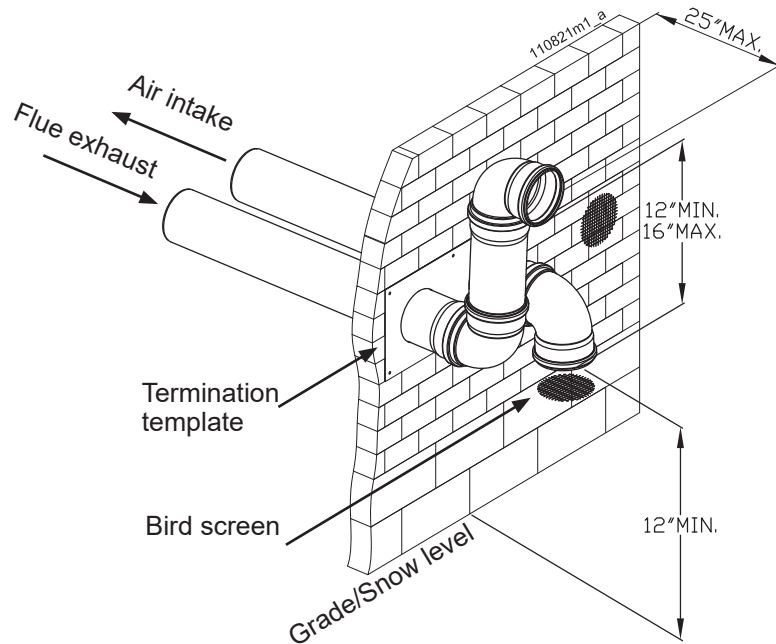

Figure 11-15 Two pipes sidewall termination of air and vent
- 3.- The vent piping must terminate in an elbow pointed outward as shown in Figures 11-15 or 11-16 or in a roof as shown in Figure 11-22;
Do not exceed the maximum lengths of the outside vent piping shown in Figures 11-15, 11-16 or 11-22. Excessive length exposed to the outside could cause freezing of condensate in the vent pipe, resulting in potential appliance shutdown.
- 3.- The air piping must terminate in a down-turned elbow as shown in Figures 11-15 and 11-16. This arrangement avoids recirculation of flue products into the combustion air stream;
- 4.- The vent piping must terminate in an elbow pointed outward or away from the air inlet, as shown in Figures 11-15 and 11-16.
! WARNING!!! Do not exceed the maximum lengths of the outside vent piping shown in Figures 11-15 and 11-16. Excessive length exposed to the outside could cause freezing of condensate in the vent pipe, resulting in potential appliance shutdown.
- 5.- Maintain clearances as shown in Figures 11-15 and 11-16. Also maintain the following:
- 1.- The air termination coupling must be oriented at least 12 inches above grade or snow line as shown in Figures 11-15 and 11-16;
- 2.- Maintain the required dimensions of the finished termination piping as shown in Figures 11-15 and 11-16;
- 3.- Do not extend exposed vent pipe outside of the building more than what is shown in Figures 11-15 and 11-16. Condensate could freeze and block vent pipe.